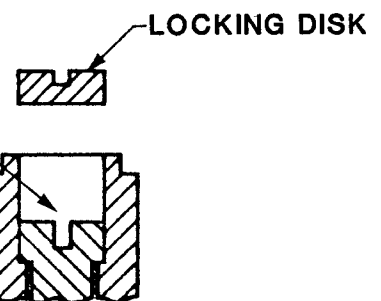

FIG. 2
1. Remove locking disc to expose adjusting screw. (See Fig. 2).